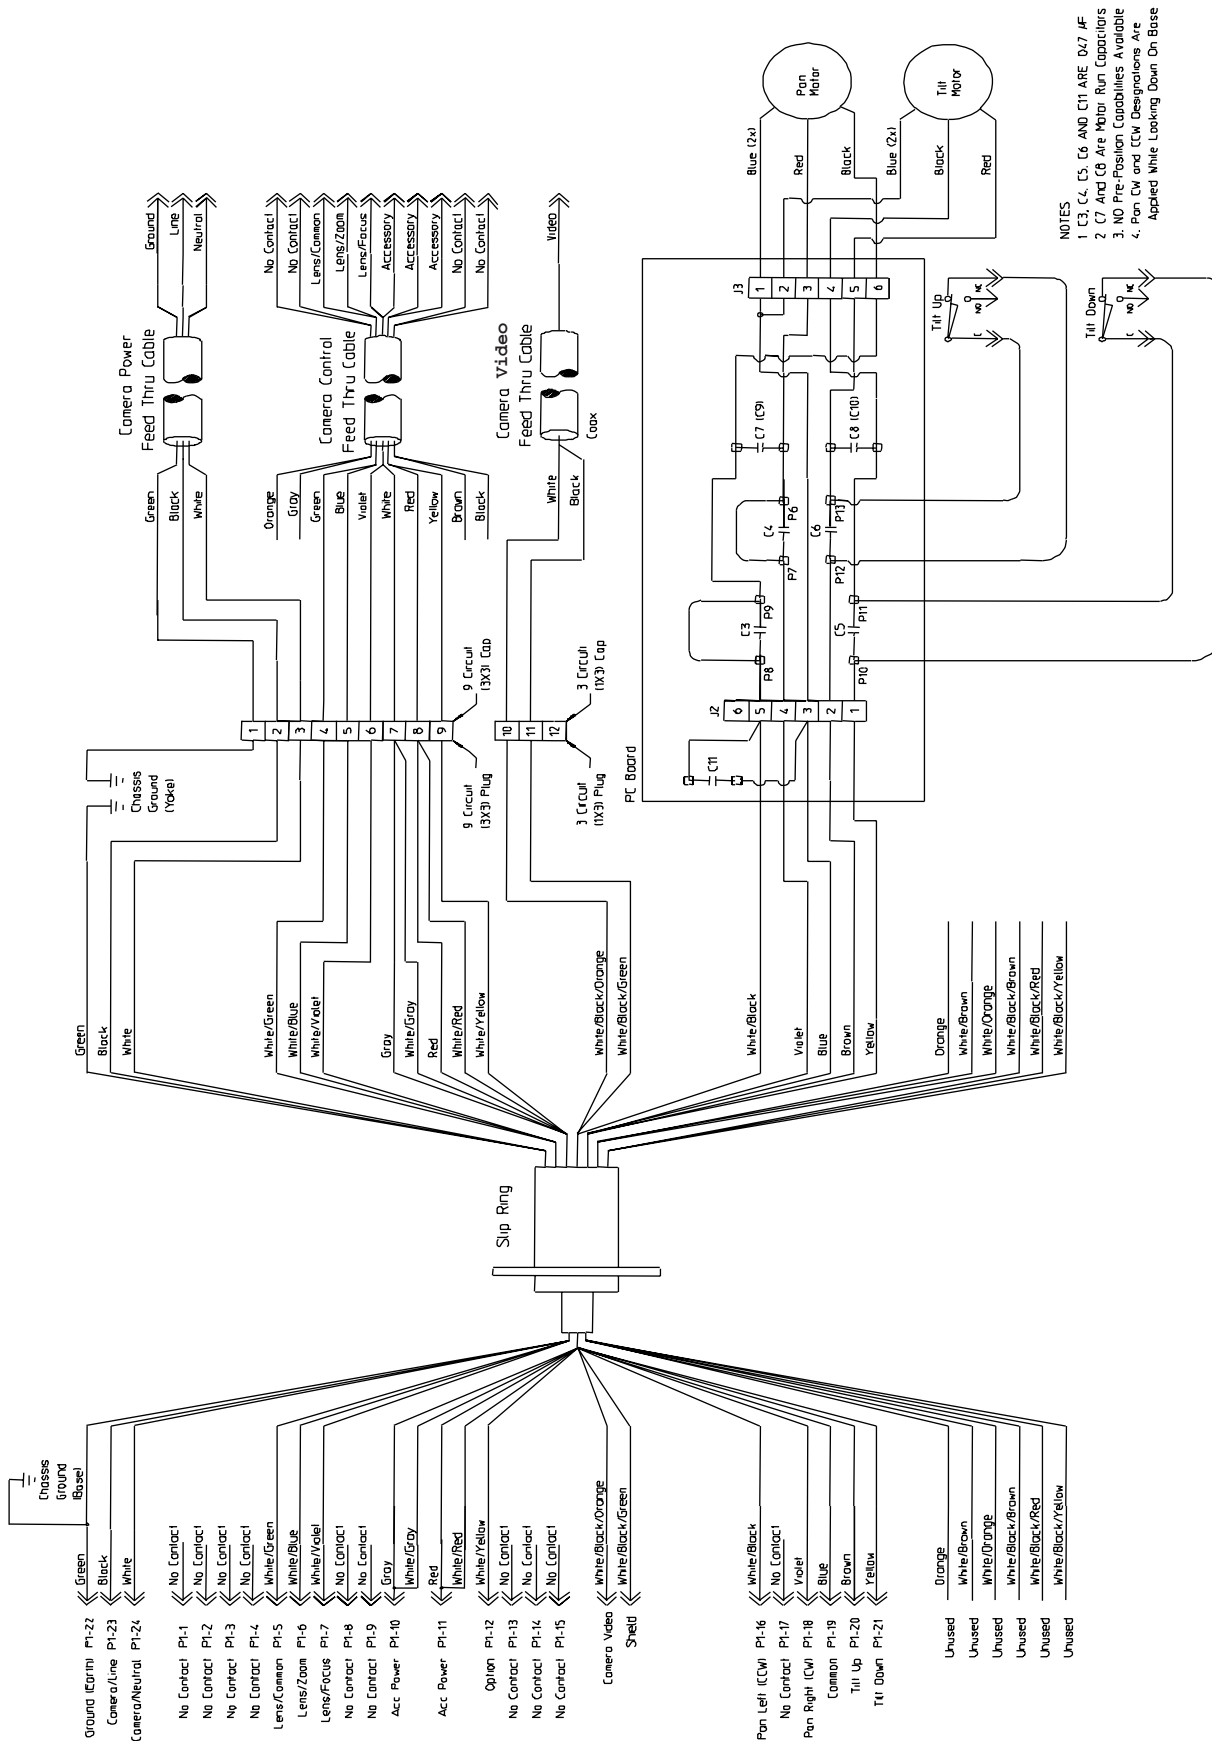

Figure 7: Wiring Diagram - 360° Models
7. Refer to **Figure 7** under Wiring Diagrams for the wiring schematic.
These models allow 360 degree rotational (pan) operation. They have no pan stops. These units can be manually panned left or right or they can be panned continuously left or right by auto-pan activation. Auto-Pan activation requires wiring connections to pin 16 (Pan Left), pin 18 (Pan Right), and pin 19 (Common). See **Figure 7: Wiring Diagram (360° Models)**.